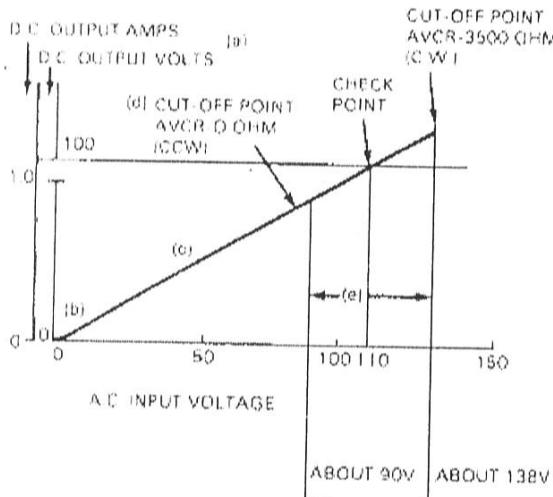
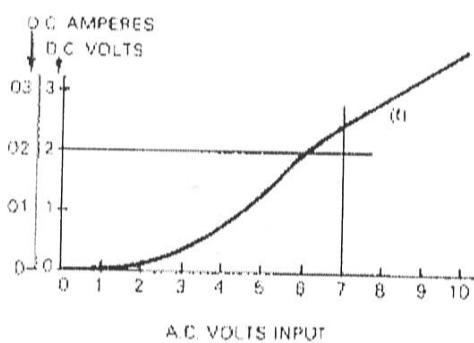

Figure 14
Figure 15
The Bench Tests explained here require the equipment below. The circuit for the Bench Tests is given in Figure 14, modified as required for the separate tests as given in the instructions.
2. Construct the circuit of Figure 14, but leave the switch open and the transformer not energized. Connect the 150 volt A.C. voltmeter across the transformer output.
2. During these tests, the A.C. input voltage and D.C. output voltage will follow the curve of Figure 14, approximately.
4. The lower portion of the curve (up to 10V A.C. input) is expanded to Figure 15, showing the area which determines build-up.
- d. As you increase the A.C. voltage input, pause at about 25 volts, 50 volts, and 75 volts and record the D.C. output voltage at each point to determine how close the regulator meets the typical curve of Figure 14. It should not deviate by more than 10% at any point
Determine the cut-off point for zero ohms in the AVCR and for 3500 ohms. These should be within  $\pm 10$  volts of the value given in Figure 14.
### EXPLANATION OF FIGURES 14, 15, AND 16
Figure 14 is the curve of D.C. output versus A.C. input voltage with a 100 ohm fixed resistor as load on the D.C. output. If the load is different than 100 ohms (such as a generator exciter field), the D.C. voltage range will apply, but the D.C. amps will be different.
Figure 15 is an expanded view of the very low voltage portion of Figure 14 showing the build-up limits.
- (b) The ability of a regulator to provide enough D.C. voltage for build up at low A.C. voltage input should be checked. This portion of the curve is expanded in Figure 15.